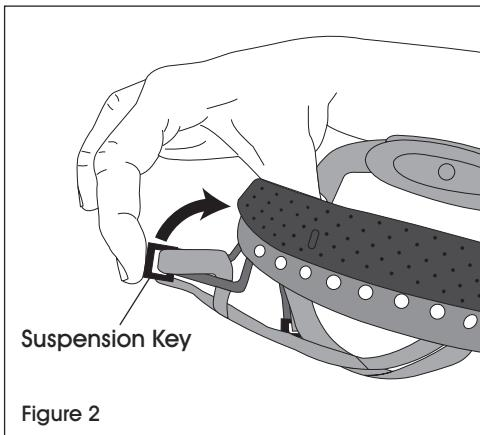

Figure 2
3. Fold one suspension key out and up. (See Figure 2)